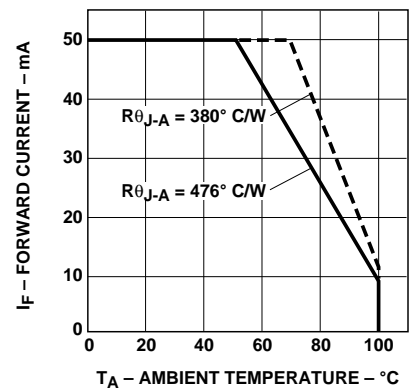

Figure 4. Maximum Forward Current vs. Ambient Temperature for HLMA-/HLMT-QL00/QH00/PL00/PH00. Derating Based on $T_{j,MAX} = 110^{\circ}C$.
3. Derate linearly as shown in Figure 4.